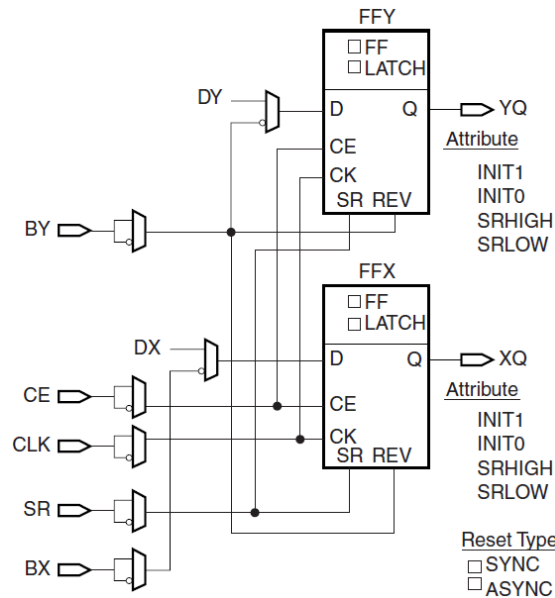

Figure 12 Register/Latch Configuration in a Slice
The storage elements in a BQR2V3000 slice can be configured as either edge-triggered D-type flip-flops or level-sensitive latches. The D input can be directly driven by the X or Y output via the DX or DY input, or by the slice inputs bypassing the function generators via the BX or BY input. The clock enable signal (CE) is active High by default. If left unconnected, the clock enable for that storage element defaults to the active state. In addition to clock (CK) and clock enable (CE) signals, each slice has set and reset signals (SR and BY slice inputs). SR forces the storage element into the state specified by the attribute SRHIGH or SRLow. SRHIGH forces a logic “1” when SR is asserted. SRLow forces a logic “0”. When SR is used, a second input (BY) forces the storage element into the opposite state. The reset condition is predominant over the set condition (Figure 12). The initial state after configuration or global initial state is defined by a separate INIT0 and INIT1 attribute. By default, setting the SRLow attribute sets INIT0, and setting the SRHIGH attribute sets INIT1.